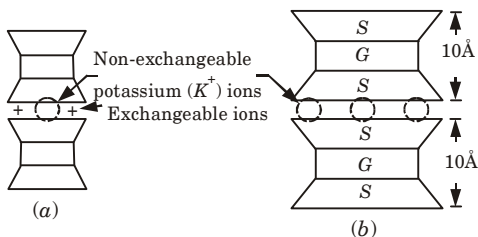

Fig. 1.21.3. Structure of illite mineral.
4. The basic structural unit of illite is symbolically represented as shown in Fig. 1.21.3(a).